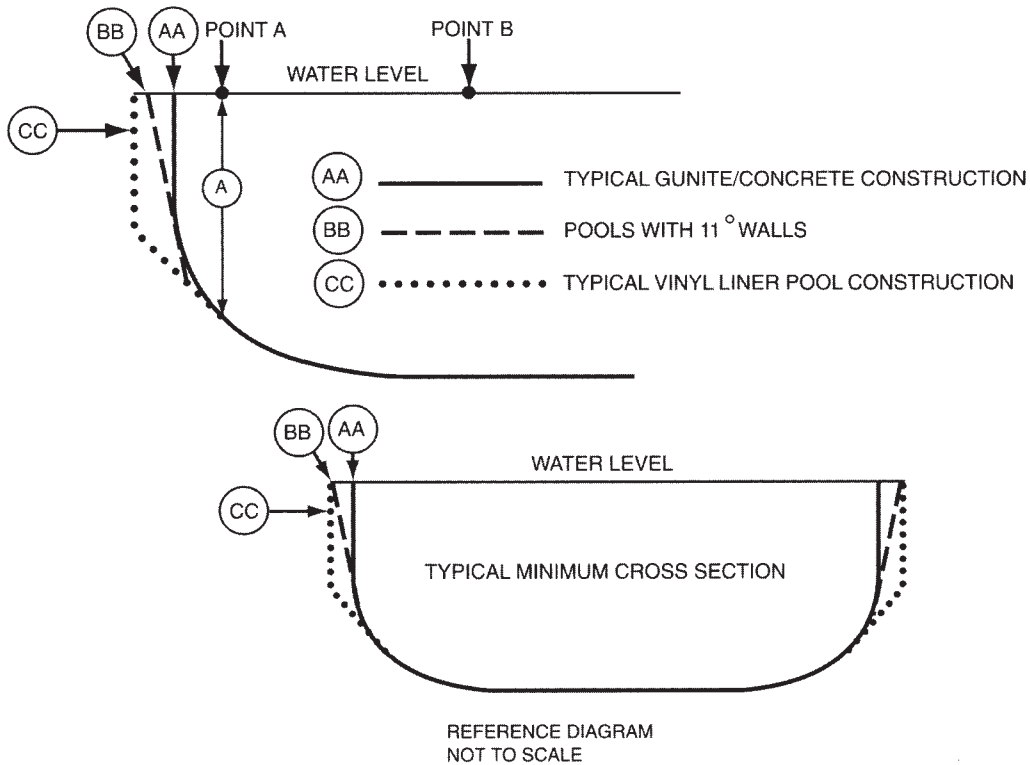

Figure 2 – Typical pool design configurations
5.3.2 As shown in figure 2, at the depths of (a) and (b), the walls are permitted to join the floor.